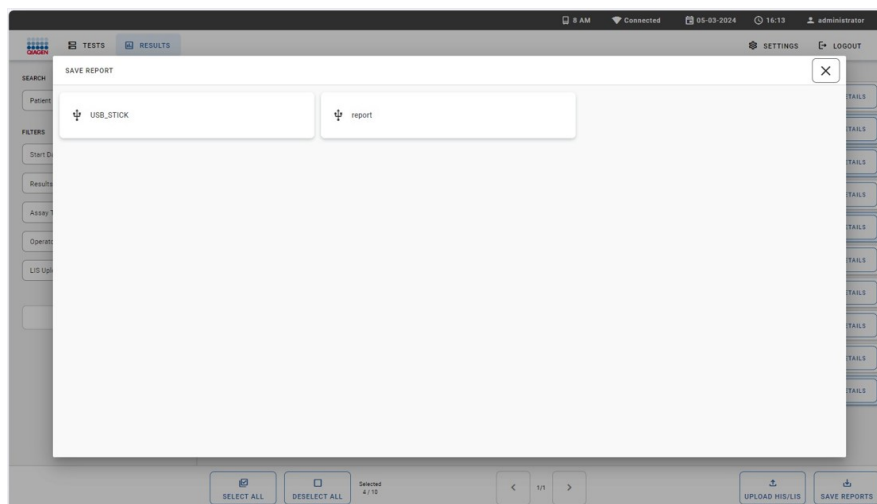
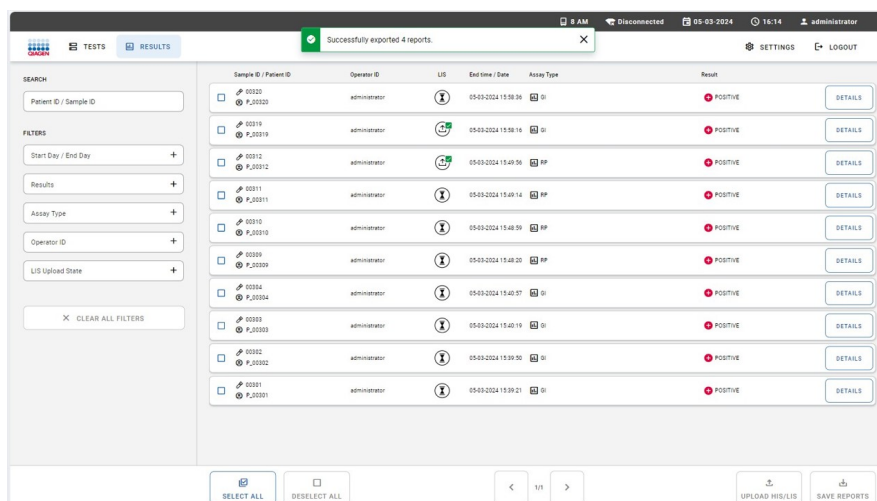

Figure 51. Exporting results to a USB storage device.
Figure 52. Successful export.
3. If multiple USB drives are connected, select the desired USB drive (Figure 51). When the export of the reports is completed, the system displays a message in the message bar (Figure 52).